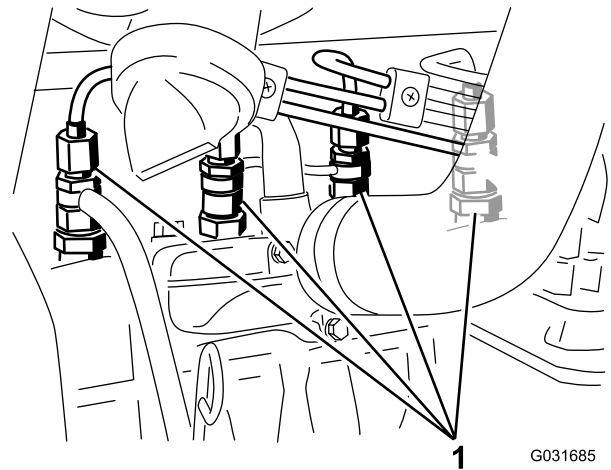

Figure 42
1. Loosen the pipe connection to the No. 1 nozzle and holder assembly (Figure 42).